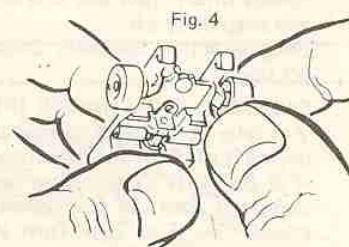

Fig. 4
4. **CHASSIS ADJUSTMENT (FIG.4)** Chassis adjustment is as important in HO scale as it is on fullsize racing cars. Making sure your car is 'flat', can give you an important edge over your competitor. To check for flatness, take the body off and place the car on a piece of straight track. Look closely to see if both front tyres are in contact with the track. If one is not, carefully bend upwards the axle of the front tyre that is touching. If one is not, carefully bend upwards the 'high' tyre as this may tend to raise the car too much.